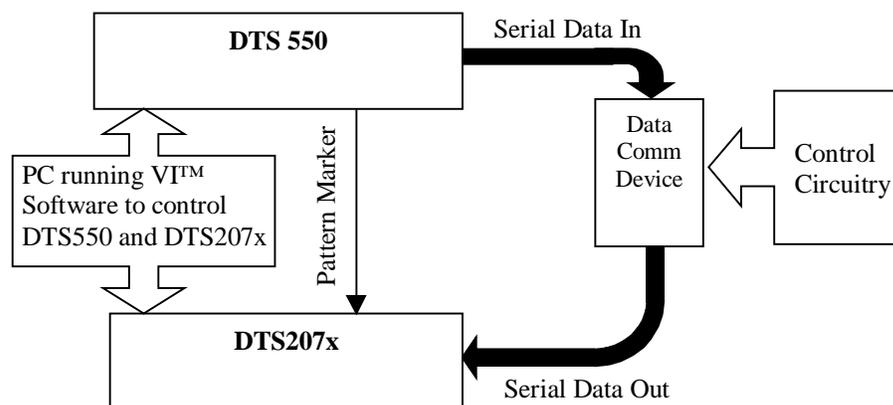

Figure 1.2 *WAVECREST* Data Communications characterization setup.
Ideally, a device would be able to tolerate all levels and combinations of jitter modulation and random jitter injection, hence, it would not matter how much jitter a device generated, transferred or was subjected to. All communications devices, however, have a finite limit to the amount of jitter they can tolerate. Therefore, during characterization stage, it is important to know exactly how much and what kind of jitter is being injected into, or generated by, the device. To do this, high-precision measurement tools are necessary. An optimum solution for this stage is an instrument package incorporating the *WAVECREST* DTS207x, DTS550 and *Virtual Instruments*™ (VI) Software. Figure 1.2 best describes this configuration.